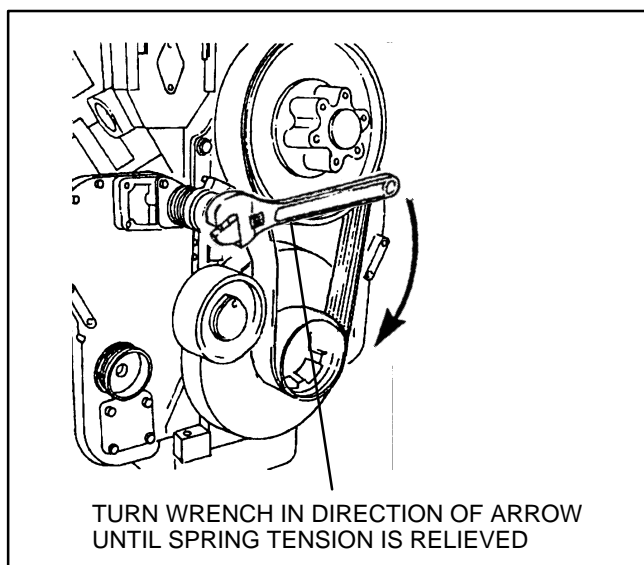

FIGURE 9-3. FAN BELT INSTALLATION
6. Use an 8-point socket and breaker bar or a large wrench to hold the idler in position against the spring tension (Figure 9-3). Turn the wrench until the idler pulley position is sufficient to position the belt in front of the idler pulley. Align the grooves of the belt on the ribs of the pulley and shaft and then slowly release spring tension onto belt.